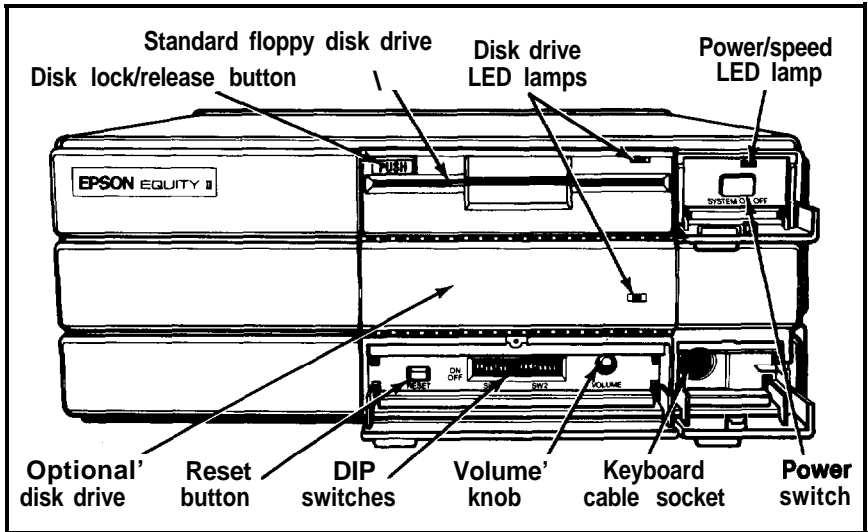

Figure 1-3. Front *panel*
Figure 1-3 shows the front panel with the covers open to reveal the computer's DIP switches and the keyboard cable socket. To open the covers, press down gently on each of the small handles and pull out.
- Optional disk drive. Your Equity II may have a second floppy disk drive (360KB or 1.2MB) or a 20MB hard disk drive (as shown in Figure 1-3) in this slot. If your Equity II has only one disk drive, a panel covers this empty slot.